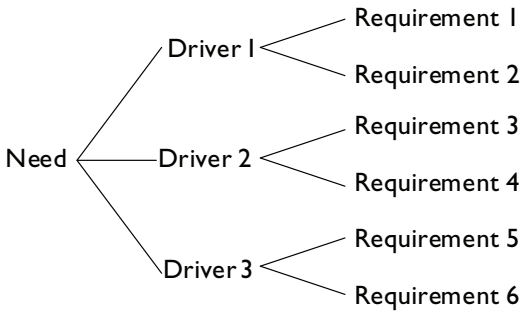

Figure 4-2. CTQ tree
2. Use the VOC needs within each group to show the factors for each type of need, the factors that constitute what the customers mean by “quality,” called the “quality drivers.” A CTQ tree (Figure 4-2) is a good, simple way to organize the needs and component factors.